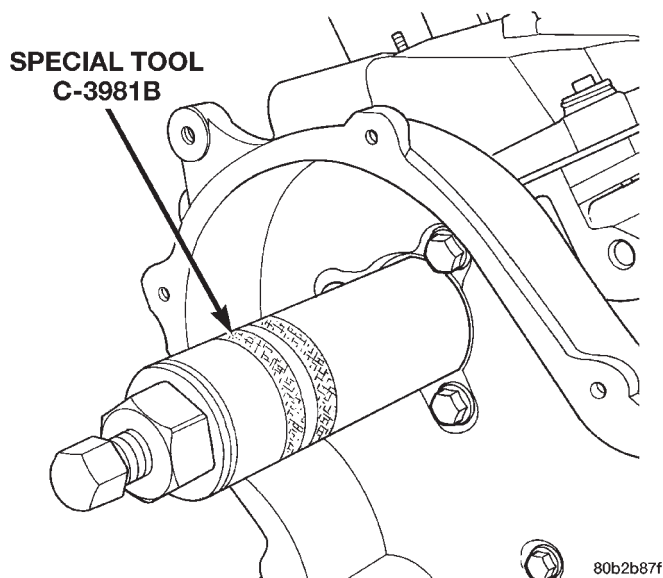

Fig. 74 Camshaft Oil Seal—Removal
(1) With camshaft sprockets removed. Refer to procedure in this section.
(2) Use Special Tool C-3981B to remove camshaft oil seal (Fig. 74).